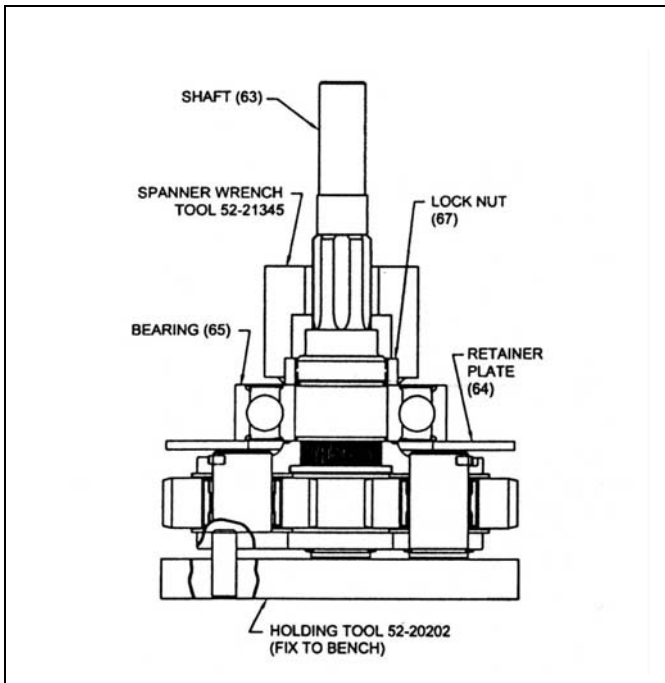

Figure 27. Tightening Retainer Nut (T106F, T112F)
Place carrier shaft assembly onto TDI Tool P/N 52-20202, see Figure 27. Thread retainer nut (67) onto shaft (63). Hold carrier assembly down and torque nut to 600-800 lb.-in. with spanner wrench, TDI Tool P/N 52-21345.